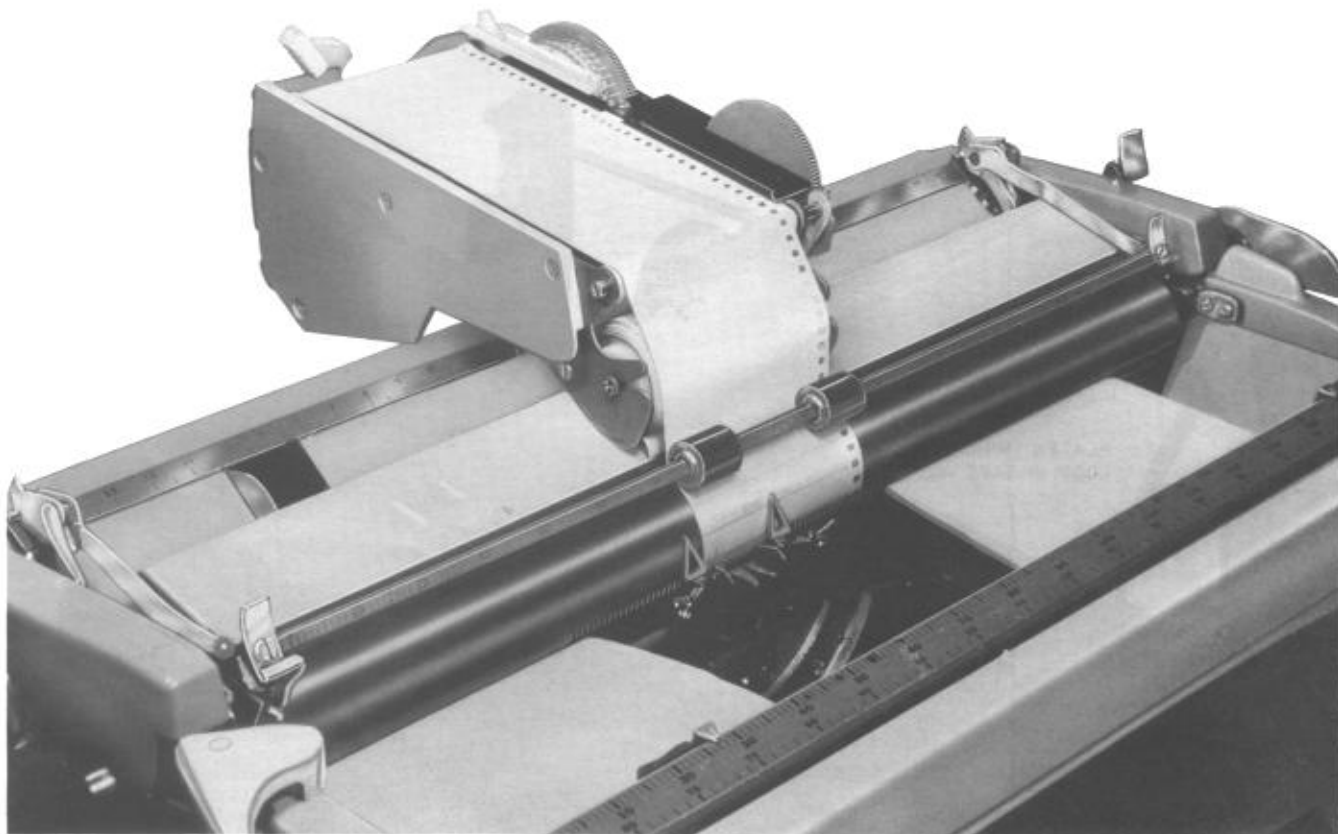

Fig. 11 — Directory Tape In Typewriter
- (6) Pull a loop in the directory tape and feed the platen (roller) through the loop. Be sure tape is under paper rollers.
- (7) Lock platen (roller) in place.
- (8) Position mechanism on carriage as shown in Fig. 11.
- (9) Using a list of names arranged in alphabetical order, type the first name on the list in the proper place on the directory. The platen (roller) may be rotated to roll the directory tape downward toward the "Z" index designation. Type each name in the upper half of a space and the corresponding telephone number in the lower half.
- (10) Continue typing names and numbers until the last name on the list has been entered. Errors or previously written names may be erased, but care must be taken not to damage the tape.
- (11) Remove the directory mechanism from the typewriter by removing the platen (roller).
- (12) Replace the directory mechanism in the CALL-A-MATIC telephone set as follows:
- (a) Place the cylindrical numbers as shown in Fig. 11 in the two upright saddles.